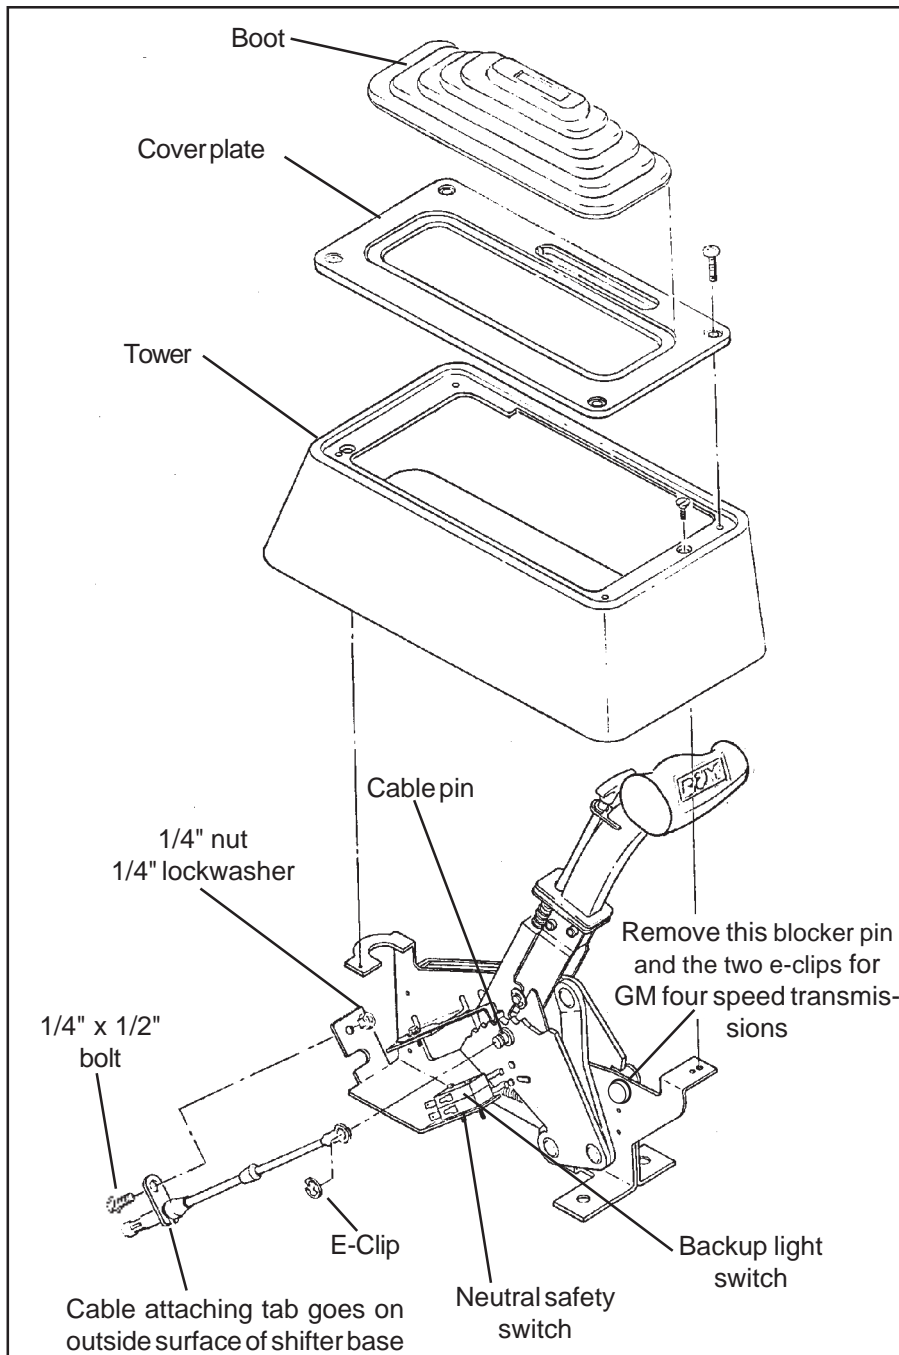

Figure 1
**NOTE:** If you are installing this shifter with a four speed automatic transmission, you must remove the blocker pin and the two e-clips indicated in **Figures 1 and 3.** Removing this blocker pin gives the shifter four forward positions rather than three. For Ford AOD four speed transmissions do **not** remove this blocker pin and the two e-clips, since this transmission has only three forward positions. Also do **not** remove the blocker pin and the two e-clips for three speed automatic transmissions.
**STEP 5.** Assemble the neutral safety and the reverse light switches to the bracket using two #4-40 x 1" screws and nuts, as shown in **Figure 1.** **Be-ware,** over tightening the switch attachment screws will crack the switch housings. Install the switch assembly
**STEP 6.** Install the cable on the shifter as shown in **Figure 1.** The cable attachment tab should be bolted to the outside surface of the shifter base using a 1/4" x 1/2" hex bolt, lock washer and nut. Install the e-clip that secures the cable to the cable pin.
and C-6 transmissions, it will be necessary to hook up the neutral safety/backup light switches on the **B&M Megashifter**. Locate and identify the neutral safety (the engine will not crank unless these wires are connected together), and reverse light wires. Disconnect the battery ground cable before beginning to wire the neutral safety and the reverse light switches. Reroute the wires to the **B&M Megashifter**. Strip 1/4" of insulation off the wires and install the supplied slip-on terminals. Crimp the terminals onto the wires using a crimping tool or pliers. Connect the neutral safety wires to the **LOWER** switch and the reverse light wires to the **UPPER** switch (See Figure 1). Tape the terminal connections to prevent shorts. Reconnect the battery ground cable, disconnect the coil wire and set the parking brake. Check the switch operation by attempting to start the motor in each shifter position. **The starter must crank only when the shifter is in the Park or Neutral position.** Check the backup light operation when the shifter is shifted to the Reverse position. Adjust the switches if required. Reconnect the coil wire. Go to **Step 27**.
'66-'68: The neutral safety switch will continue to function normally. It will not be necessary to hook up the neutral safety switch wires on the shifter. Disconnect the battery ground cable before wiring the backup light switch. Locate the original backup light switch on the steering column or the console shifter. Run these wires to the top switch on the **B&M Megashifter (See Figure 1)**. Reconnect the ground wire and check the light for proper operation. Adjust the switches on the shifter if required.